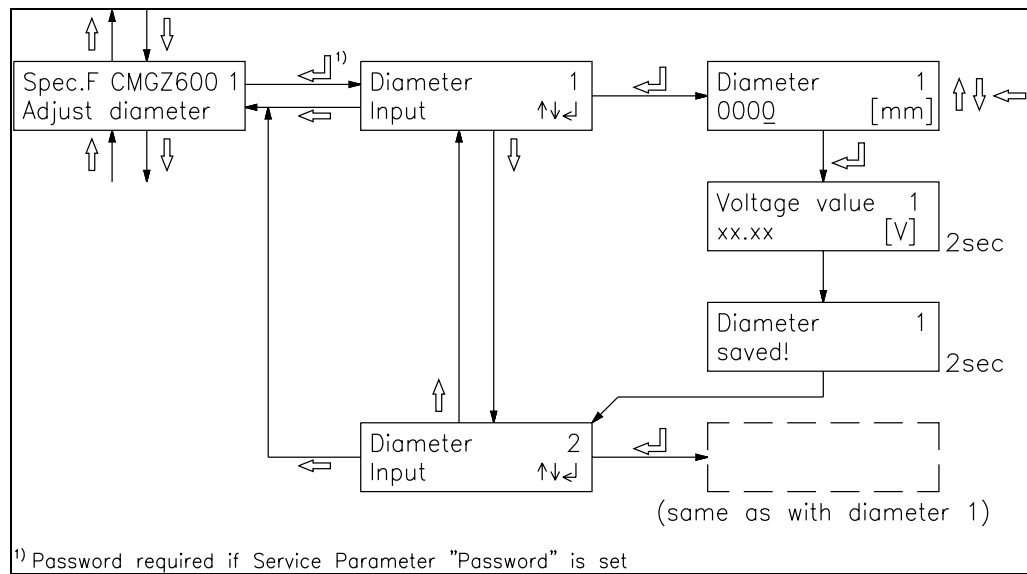

fig. 23: Program flow for special function „Adjust diameter“
- Input the actual (large) reel diameter as *Diameter 2* as written above (fig. 23). After confirmation with ↵ key the diameter is saved together with the referring voltage signal.